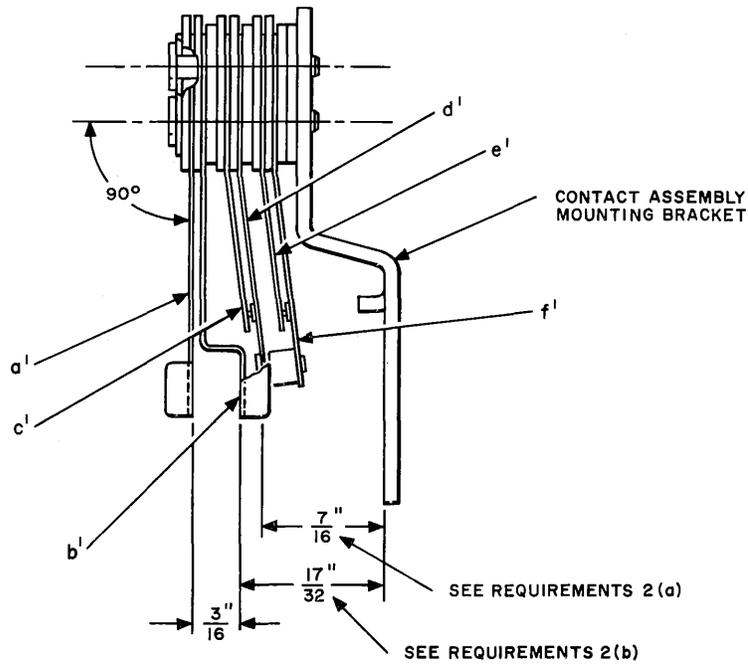
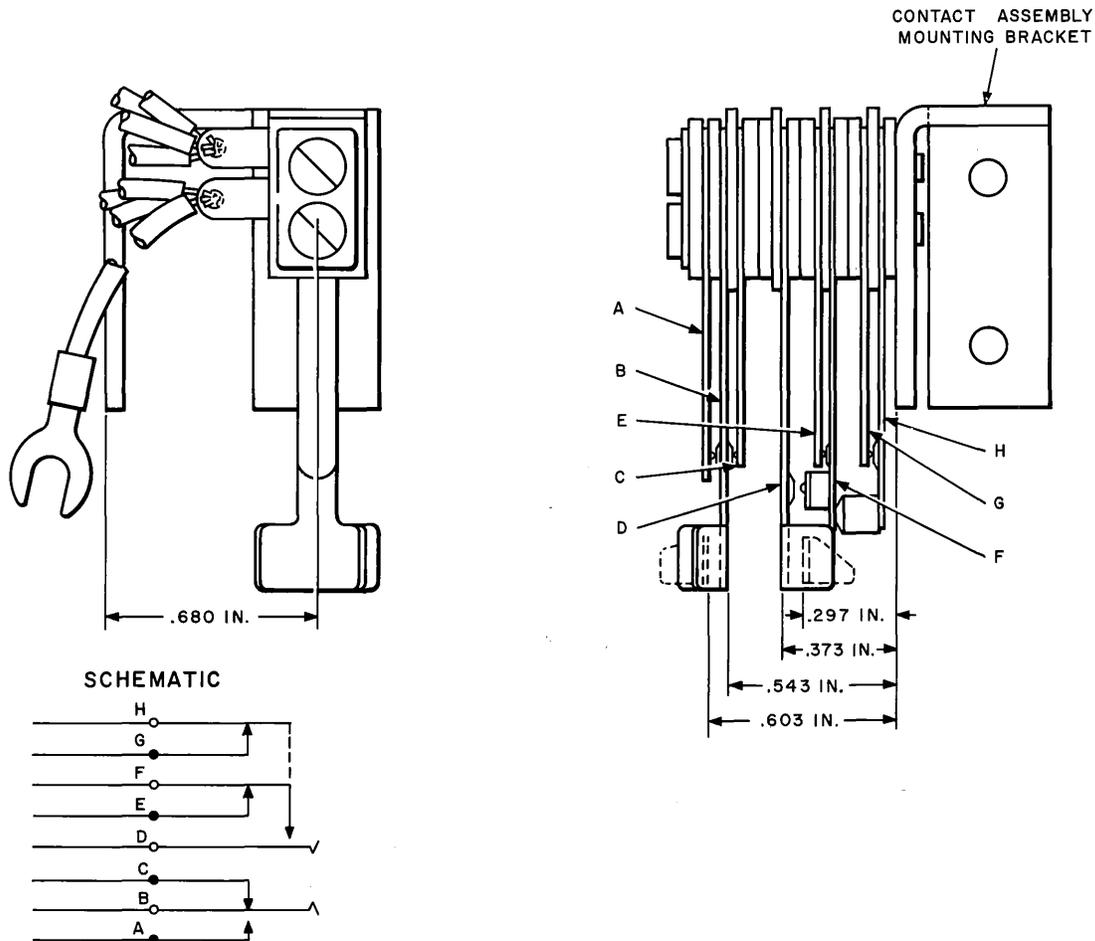

Fig. 7—Data Set J1D401A L2 Data Key Contact Adjustment
Fig. 8—Data Set 401A1 Series 2 and 3 Data Key Contact Adjustment
2.04 If the data key contact springs are accidentally bent, adjust them in accordance with the requirements in either Fig. 7 for Data Set J1D401A L2, or Fig. 8 for Data Set 401A1 Series 2 and 3.